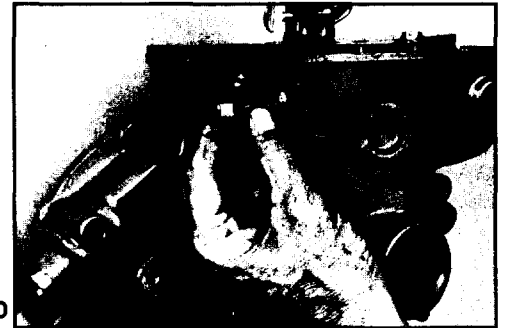

Fig. 30
There are two buffer switches available for 71-92 series engines. One for "V" configurations and one for In-line. See Fig. 30.
1. Remove the buffer screw assembly from the governor housing. See Fig. 30.